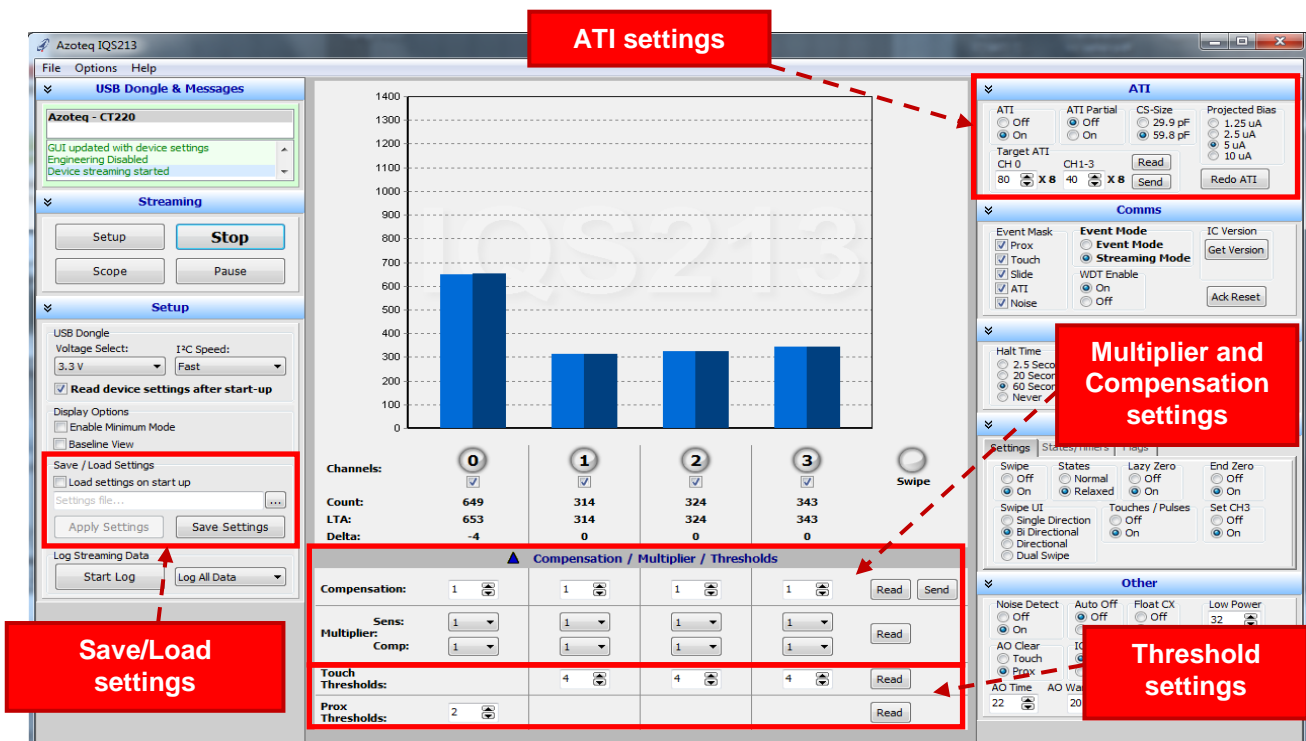

Figure 3.4 IQS213 GUI Settings
- ❏ Channel 0 (CH0) is used as a proximity (PROX) only channel. This channel is realized by charging all active channel electrodes simultaneously to deliver a distributed proximity channel. During Low Power (LP) modes, only CH0 is active – upon detection of a PROX event on CH0, the IC will zoom to Normal Power (NP) for fast touch / swipe detection.
- ❏ The proximity and touch detection levels (thresholds), as well as the overall sensitivity can be adjusted individually for each channel, in the “Compensation / Multiplier / Thresholds” section of the GUI, as illustrated in Figure 3.4.
settings can be found in the ATI section of the software GUI, as illustrated in the upper right corner of Figure 3.4.
- ❏ After the appropriate adjustments have been made to the IC, the settings can be saved to a file for future use, by making use of the Save/Load function as displayed in the left hand side of Figure 3.4. This enables settings to be loaded from the file, instead of re-adjusting all settings from scratch.